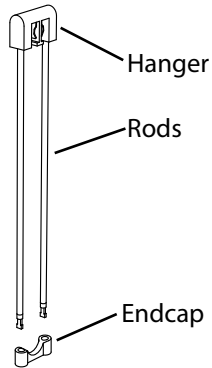

Fig. 33
1. Gently insert the two Luminaire Hanger **Rods** into the holes on the top of the Luminaire Hanger **Endcap** (Fig. 33).